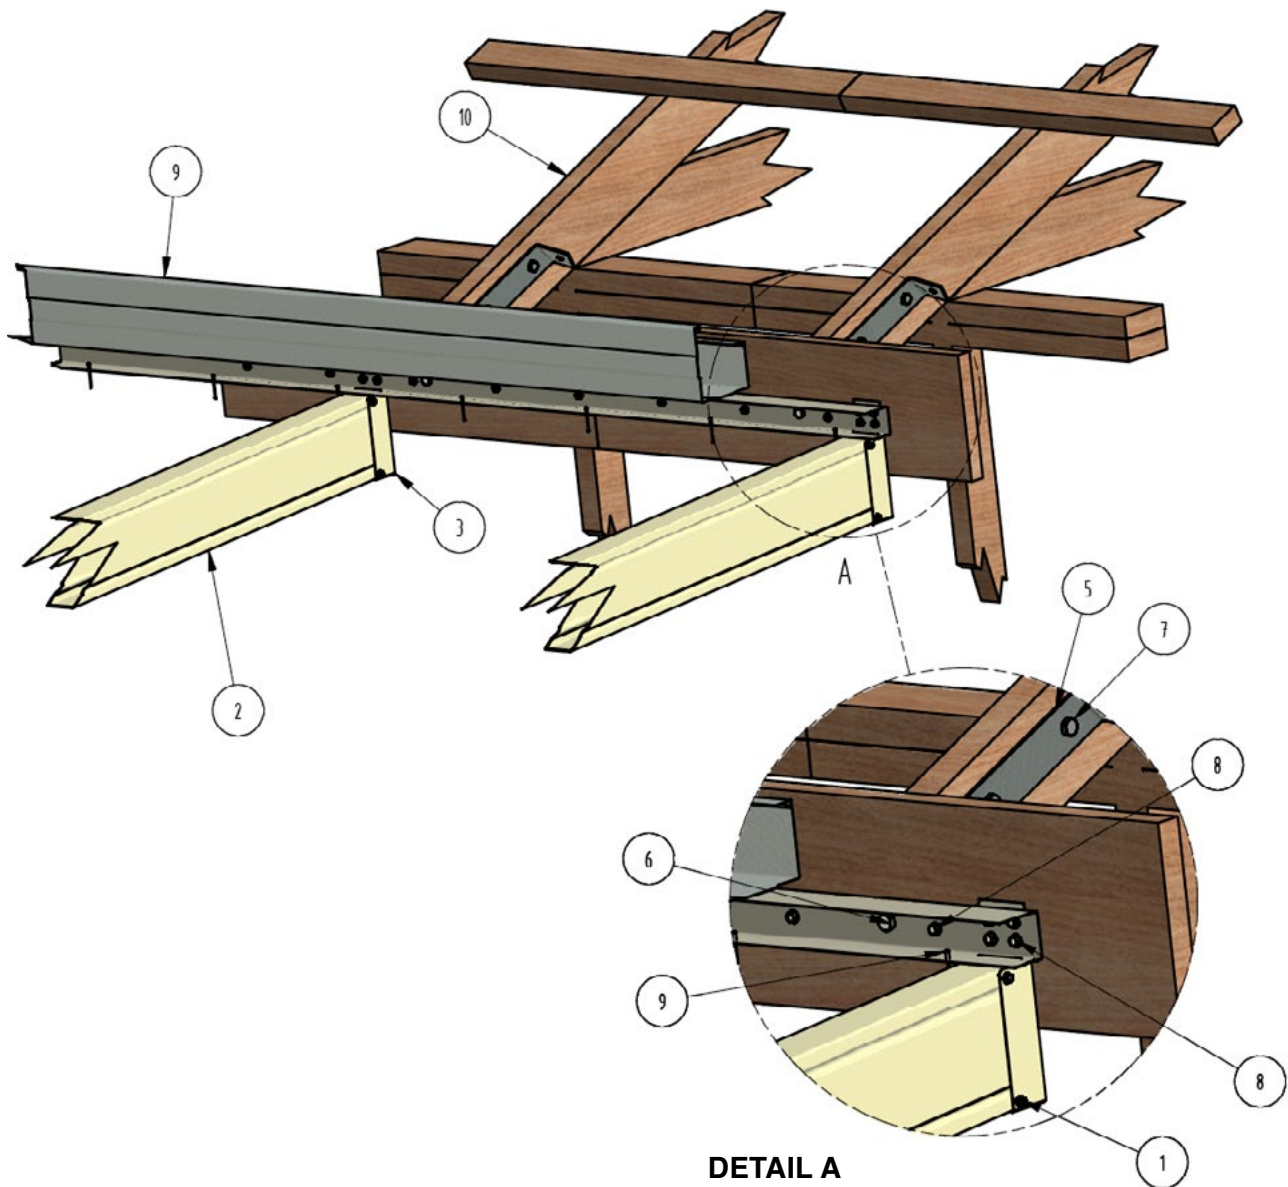

Figure A36
**Beam to Timber Fascia Connection (See Figure A36)**